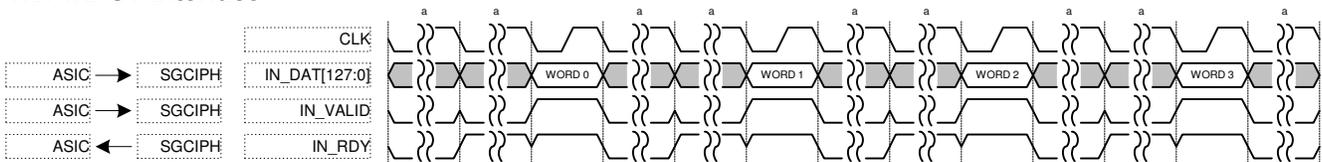

Figure 3.
Figure 3. Illustrates TXT input interface timing to the cipher. During encryption plaintext (PT) data is placed on the **IN\_DAT[127:0]** signals and during decryption ciphertext (CT) data is placed on the **IN\_DAT[127:0]** signals. The ASIC that passes PT or CT data to the input of the **SGCIPH40** is considered an upstream device. The **IN\_RDY** signal is used to indicate to the upstream device that the **SGCIPH40** is ready to receive a block of data. The upstream device responds by